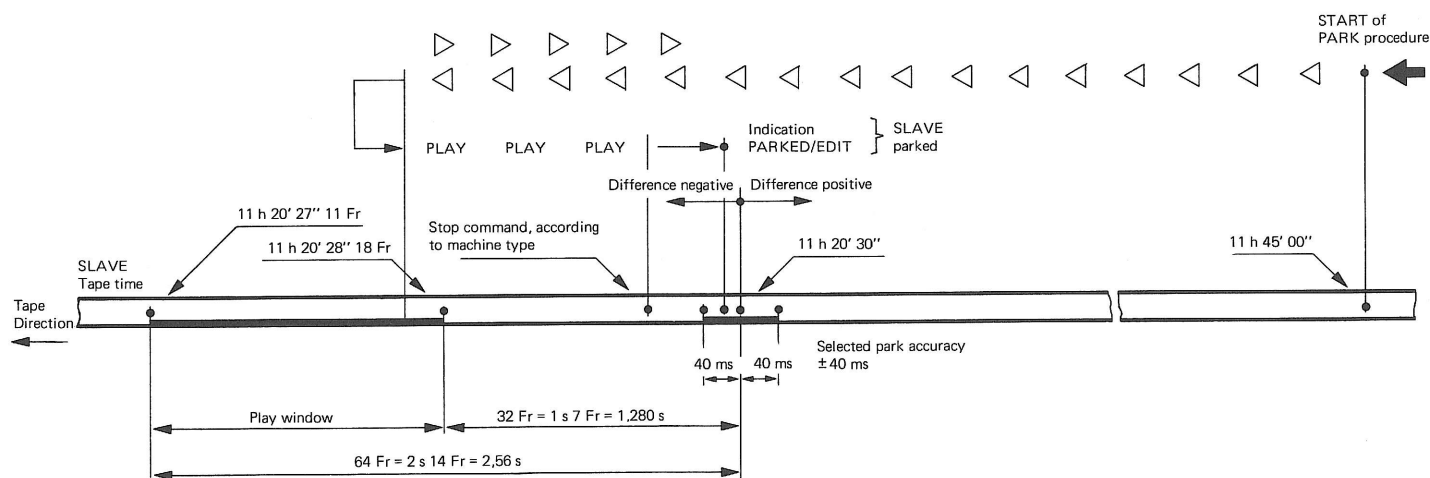

Fig. 2.5 A
The approach to the parking point is effected principally by automatically alternating "fast forward/rewind" of the spooling motors. When the difference from the park point is between -64 and -32 frames (equivalent to -2.56 to -1.28 sec in 25 frames/sec-code, see Fig. 2.5), the SLAVE runs in the PLAY mode until the parking point is reached. The parking accuracy can be adjusted with the DIL switches on card 478, pos. 19 (see description of DIL switches). The command STOP or EDIT is activated before reaching the park-point with a lead time which depends on the machine and the type of tape. When the machine is stationary, the computer compares the difference with the prescribed set point. If the value reached is greater than the set point, the park-point-memory inside the computer is corrected automatically, and the parking sequence is repeated. As all memories are set to zero when the mains supply is switched on, a second attempt to park the SLAVE is usually necessary in order to update the lead time in the park-point-memory. The value read into the memory remains valid until a correction is required. (See buttons EDIT MODE and START EDIT MODE, section 5.1.2).